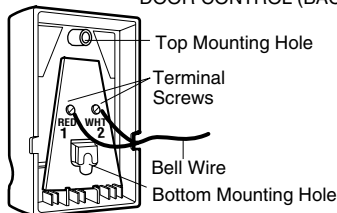

Figure 4 REMOVE COVER
2. Remove white cover by gently pushing both thumbs against upper corners of cover on back side of door control (Fig. 4). Fasten with 6ABx1-1/4" self-tapping screws (standard installation) or 6-32x1" machine screws (into gang box) as follows: